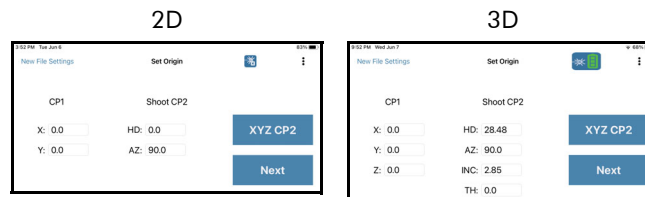

Figure 25
1. Tap [HD AZ CP2] to set CP2 using the laser to automatically enter the location. The screen will change to Figure 25.